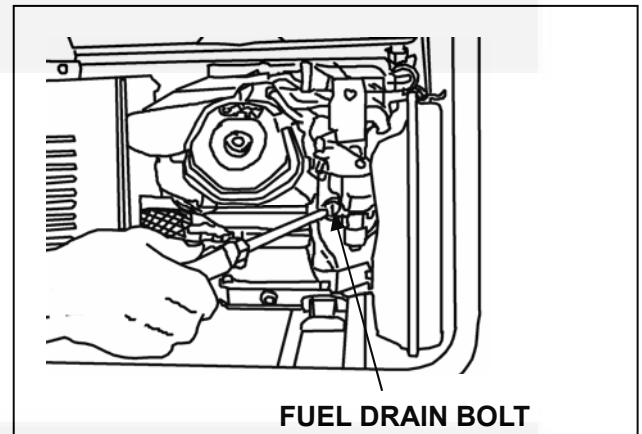

FIGURE 7. CARBURETOR DRAIN
2. Shut the fuel valve and drain the carburetor bowl. See Figure 7.